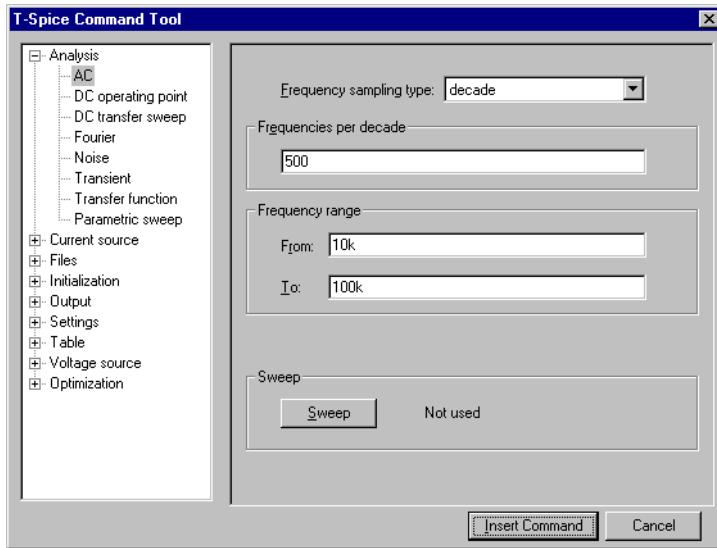

Figure 90: Customizing the AC analysis
- Choose **decade** for **Frequency sampling type**, set **Frequencies per decade** to **500**, **Frequency range From** to **10k** and **Frequency Range To** to **100k** (Figure 90).